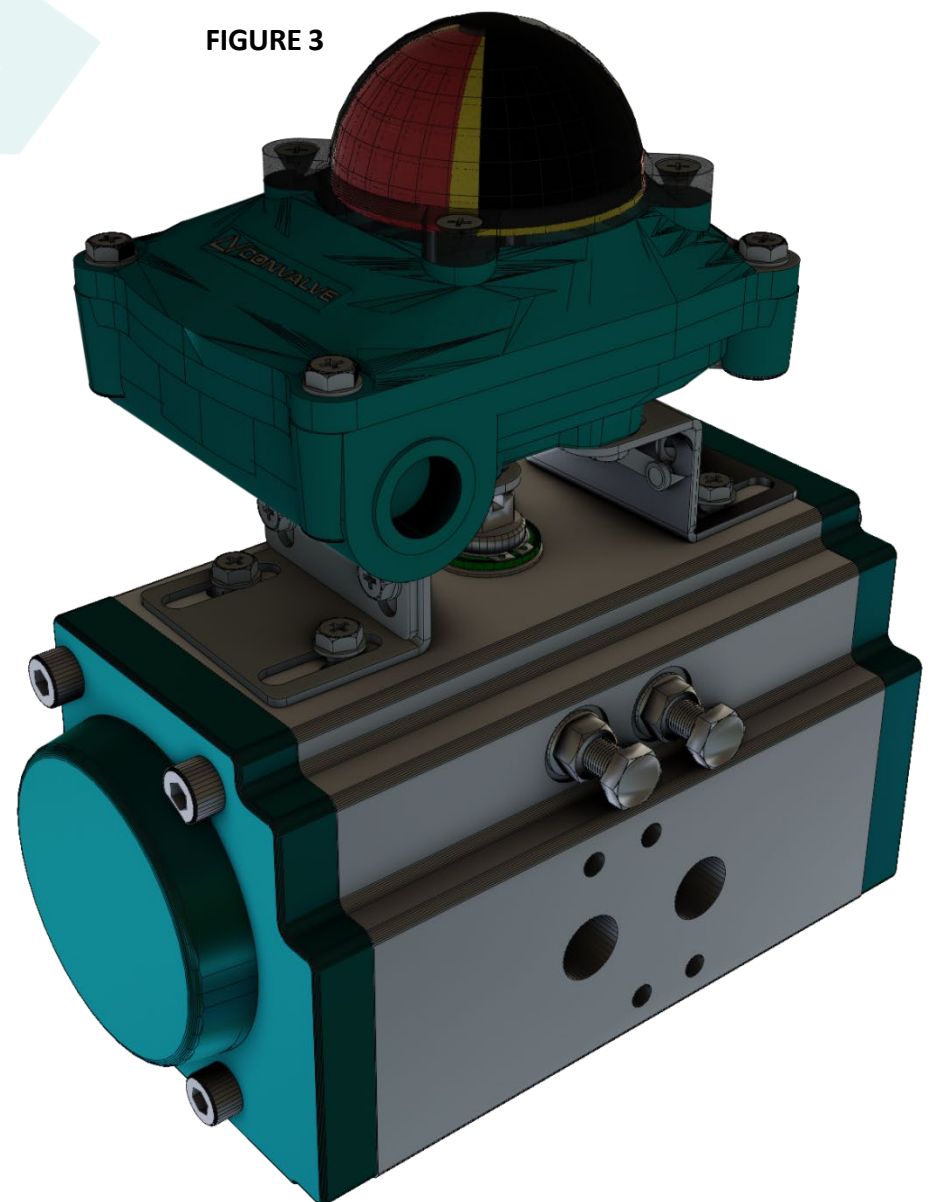

FIGURE 3
4. Secure the mounting bracket to the actuator using the four supplied screws. (Figure 3)